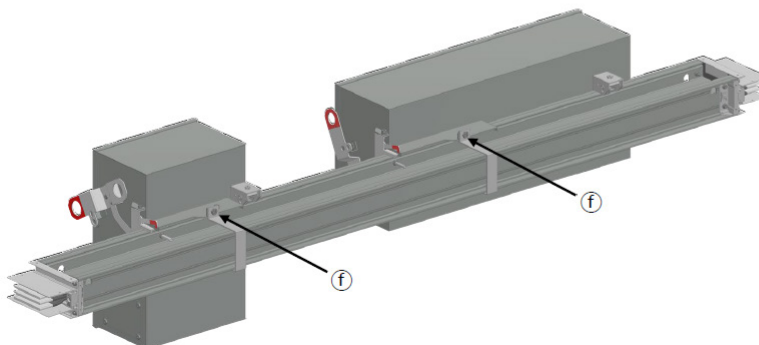

Figure 27. Fixing Band
7. For large capacity plug-in units of 400 A and above, use fixing bands to firmly secure the box and busway. (Figure 27, f)